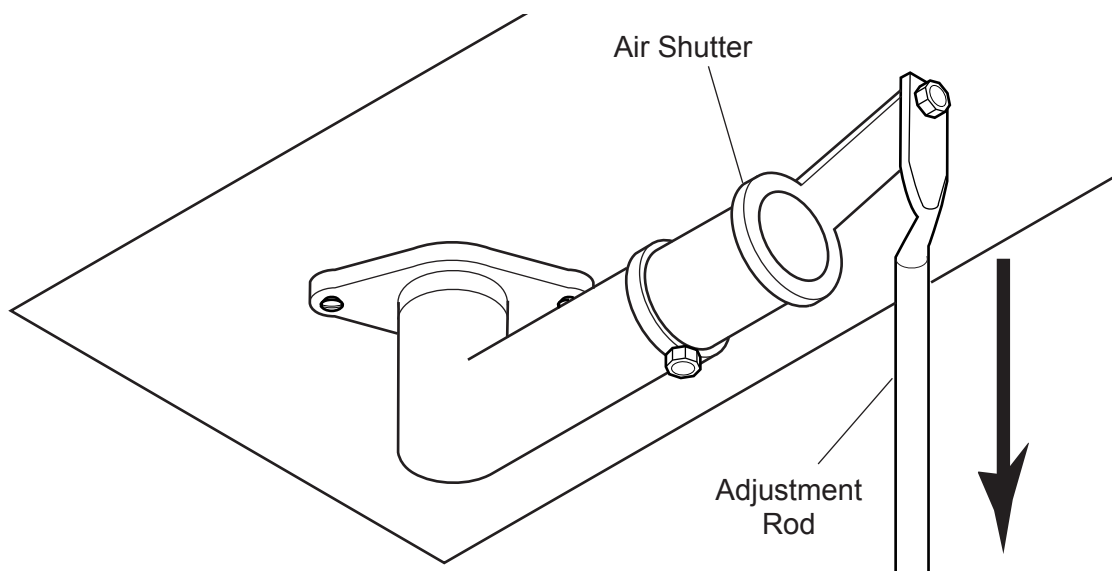

Figure 48 - Pull Adjustment Rod Down to Close Air Shutter
- To decrease air mixture, pull down the adjustment rod located beneath the stove. This closes the shutter. Flames will be more yellow. *See Figure 48.*